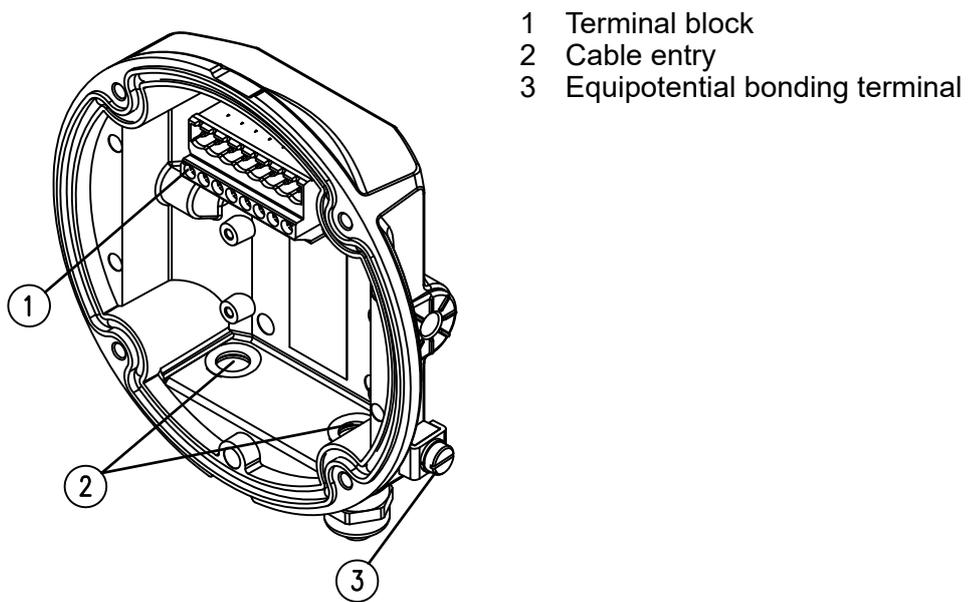

Fig. 16: MX5000 Ex detector base
4. ➤ Feed the connection cable through the cable entry (Fig. 16/2) into the detector base and connect to the terminal block (Fig. 16/1). For more information, ↪ *Chapter 6.6 "Electrical connection" on page 43.*